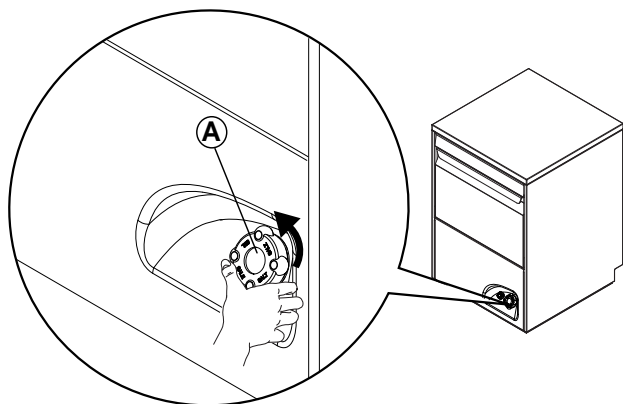

Figure 25
- Unscrew cap "A" (Figure 25) of the salt container, turning it anticlockwise.